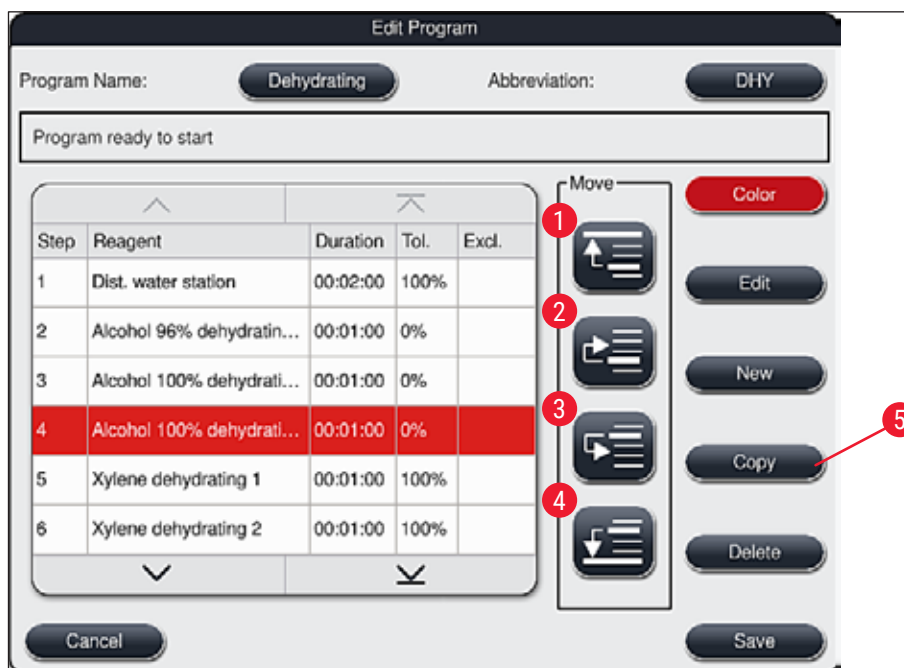

Fig. 48
- The **Edit program step** window (→ "Fig. 48") opens.
- Using the **Save** (→ "Fig. 48") button, the changes are accepted. Press the **Cancel** button to discard the changes.